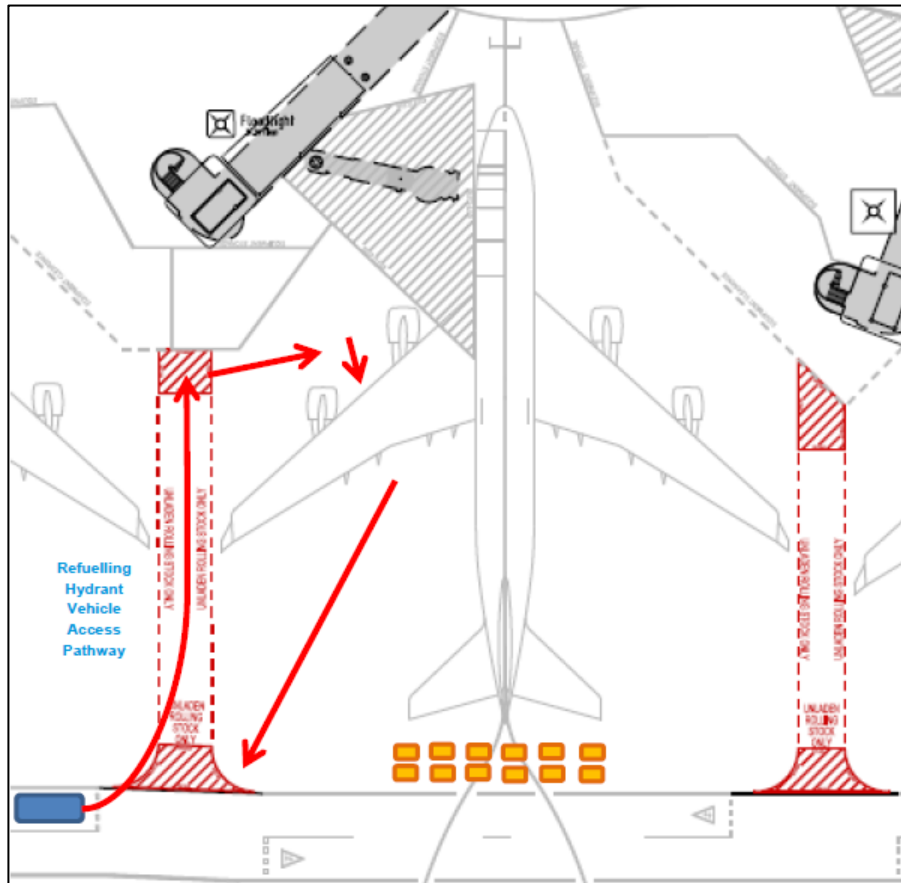

Figure 5 – Adjacent Bay Occupied
7.9 Should both bays be occupied, refuelling vehicles should await for unladen rolling stock on the adjacent bay BWS area to be relocated as per section 7.3 and 7.4. Once relocated, refuelling vehicles may use the vacated BWS area on the adjacent bay to access the aircraft (see Figure 5)